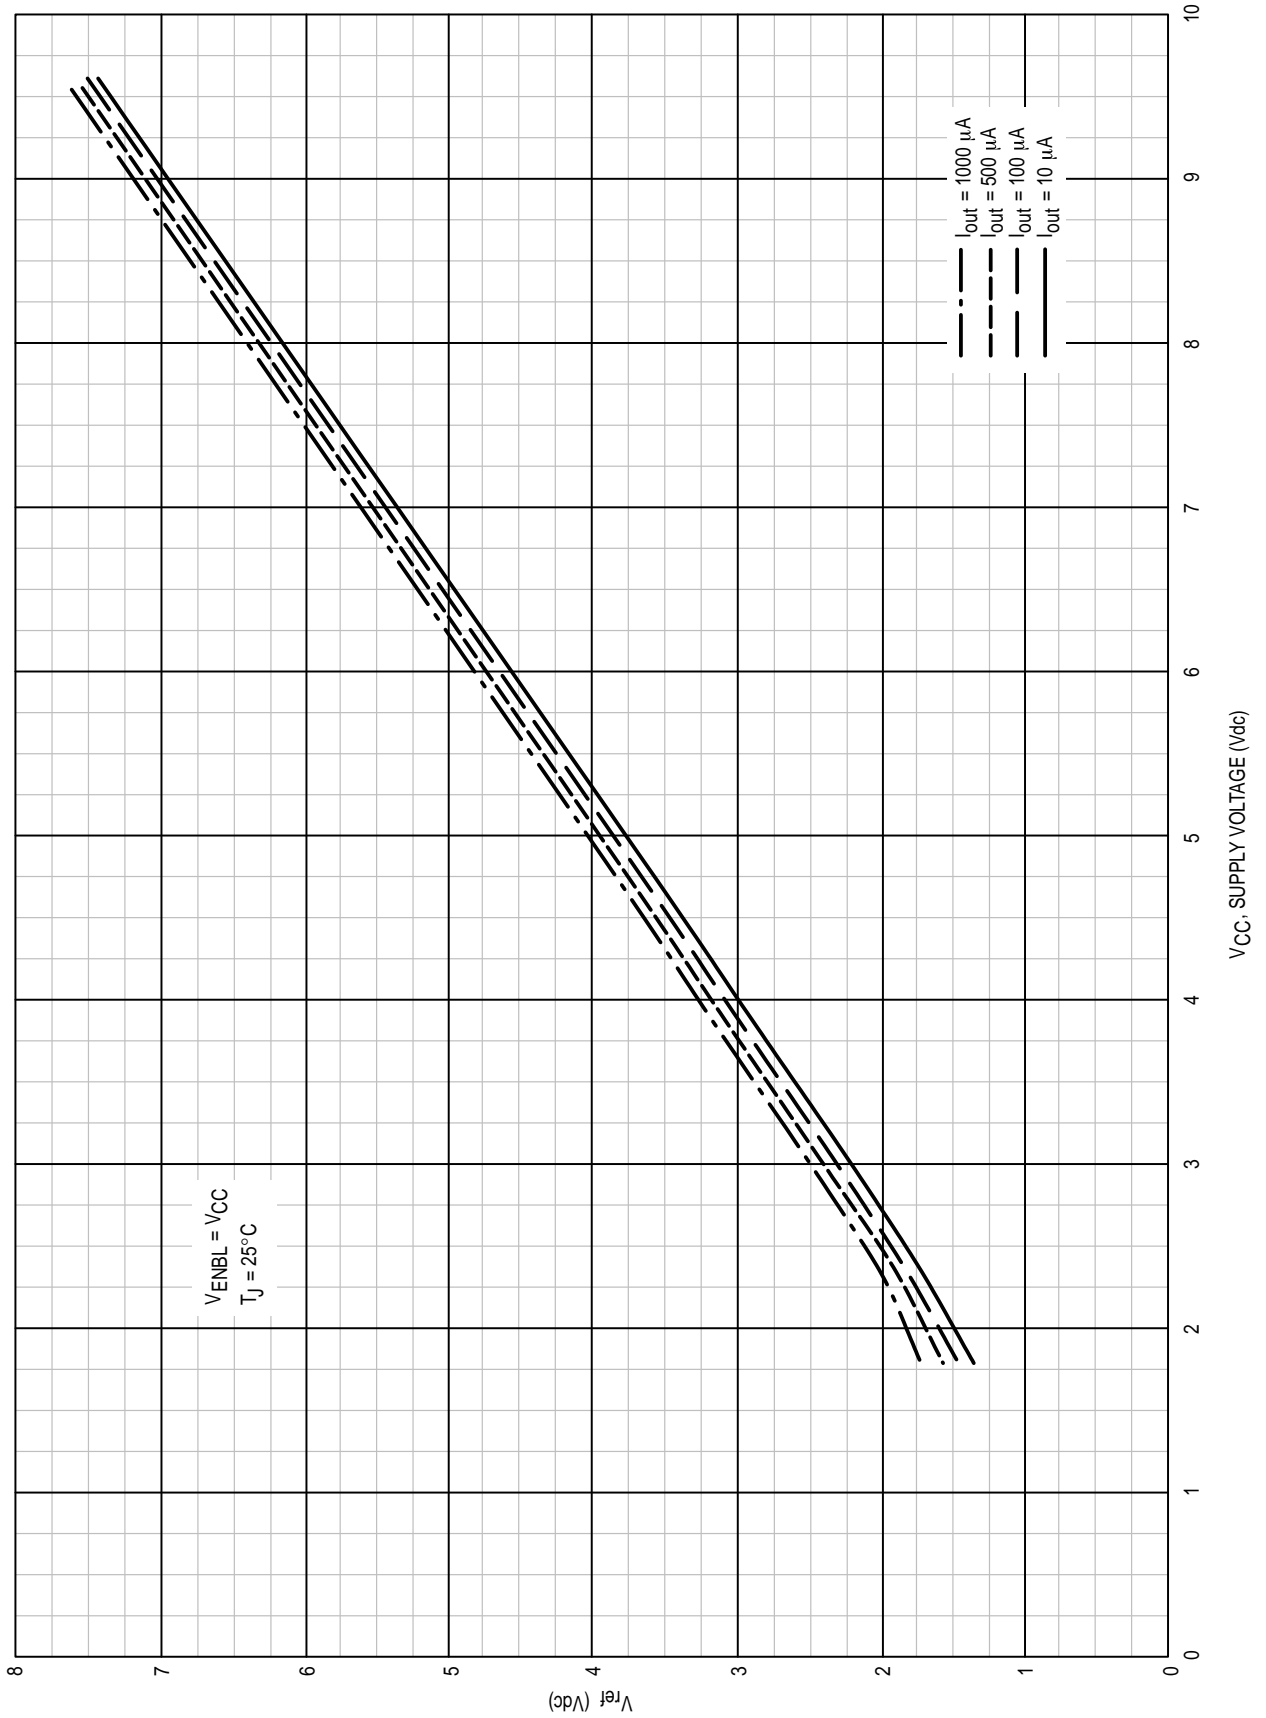

Figure 1. V_{ref} versus V_{CC} @ I_{out}
- Step 4: From Figure 1, read V_{ref} for V_{CC} and I_{out} calculated.
- Step 6: From Figure 1, read V_{ref} for V_{CC} & I_{out} chosen